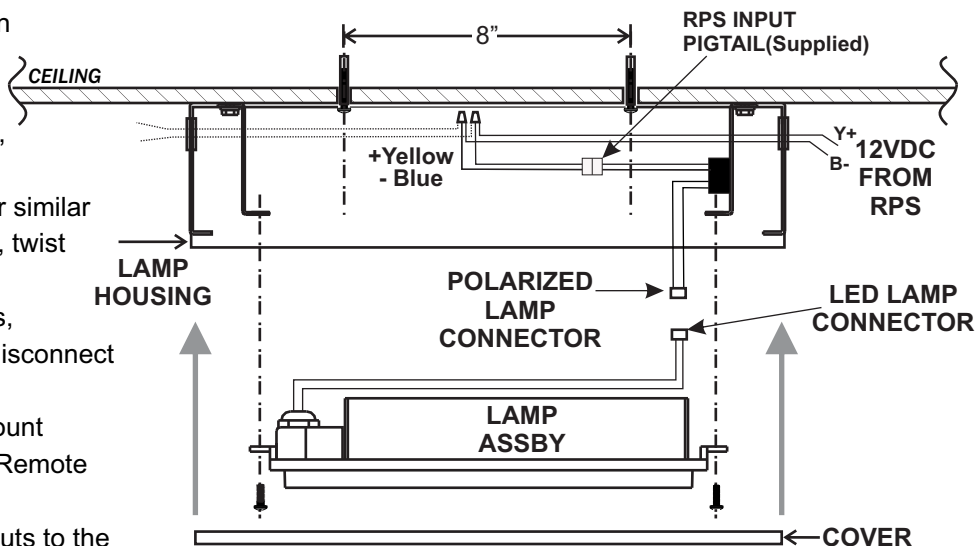

Fig.1
1. See Fig 1. Identify mounting position on ceiling in accordance with fixture layout specifications, and install (2) screw anchors, minimum size #10, at 8" between centers.
2. Insert small flat blade screwdriver or similar tool under notch at either end of cover, twist gently to release snap and lift cover. Unscrew (2) #8 lamp assembly screws, lift lamp assembly from Housing and disconnect lamp plug.
3. Mount housing to ceiling with (2) mount screws. Route Input wiring from RPS(Remote Power Supply) Box into Housing.
5. Reconnect lamp plug and reinstall lamp assembly with (2) #8 screws, and replace cover. Supply 12VDC power from RPS battery to check lamp operation.
1. See Fig. 1. Place power supply assembly inside housing and note available knock-outs for wiring clearance. Remove suitable K.O's in areas with clearance for wiring and connectors. Use framing or brackets to install RPS housing as shown, in a location convenient for access to battery and power supply. Align top edge flange flush with finished panel surface. See Table 1 to estimate wire size required based on maximum wiring length for low voltage output wiring from RPS to the fixture.